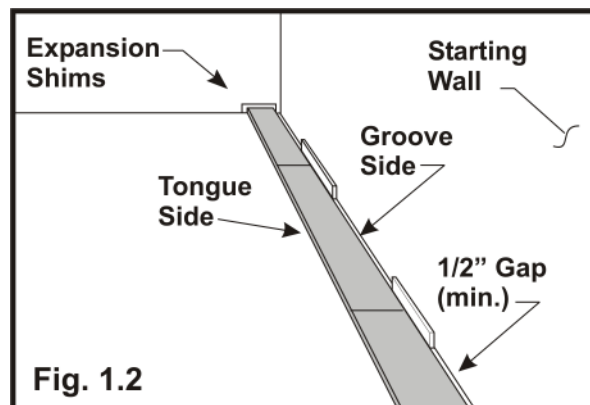

Fig. 1.2
- 1.2 Always allow minimum 1/2" expansion gap between boards and walls (Fig. 1.2). Use expansion shims spaced every 12" along all walls to help prevent avoidable movement during remainder of installation.
- 1.4 Lay entire first row and check for tight fit on all end joints. Place expansion shims as shown in Fig. 1.2. Now top-nail first row at 7" - 10" intervals as close to wall as possible (Fig. 1.4). Molding and trim pieces should cover nail holes. If not, set nails and fill with matching putty stick.